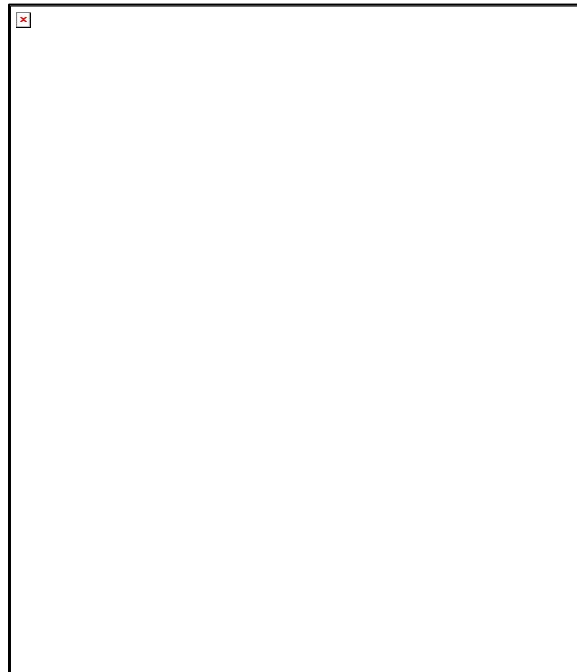

Figure 64-4. Basler USB Connect Properties
- Step 3. In the Basler USB Connect Properties window (Figure 64-4), select the Details tab. Check to see if the Value contains **MI_00** or **MI_02** in the middle of the string. This value will be used later in Step 6.